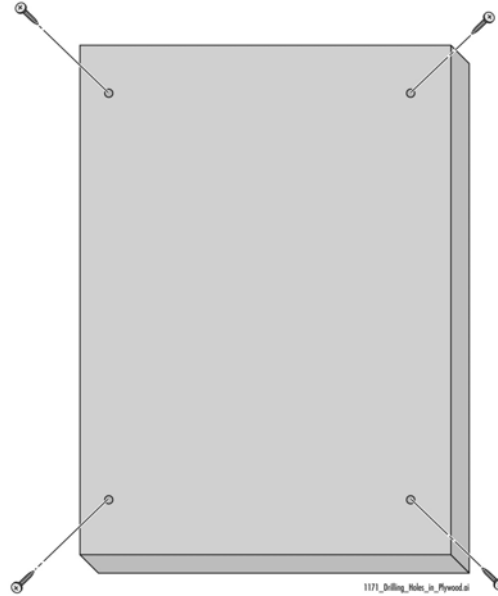

Figure 14. Securing the Plywood to the Wall
5. Fasten the plywood to the wall, using the holes that you drilled in Step 4. Use screws that ensure the plywood can withstand a downward force of 20 pounds. Refer to Figure 14.